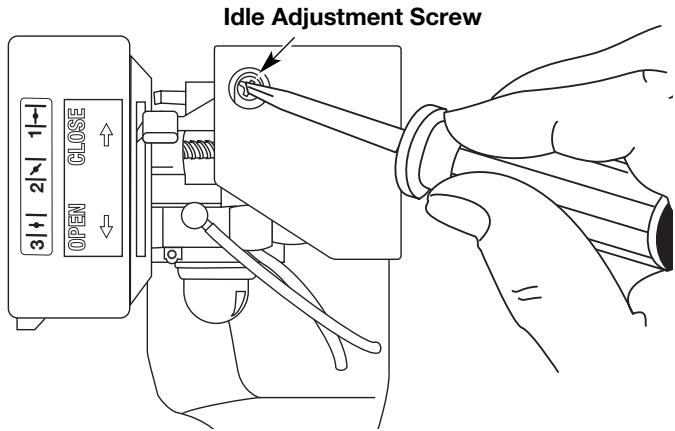

Fig. 22
The idle speed of the engine is adjustable. An idle adjustment screw is reached through a hole in the top of the engine cover (Fig. 22).
- Release the throttle trigger and let the engine idle. If the engine stops, insert a small Phillips or flat blade screwdriver into the hole in the air filter/muffler cover (Fig. 22). Turn the idle speed screw in, **clockwise**, 1/8 of a turn at a time (as needed) until the engine idles smoothly.